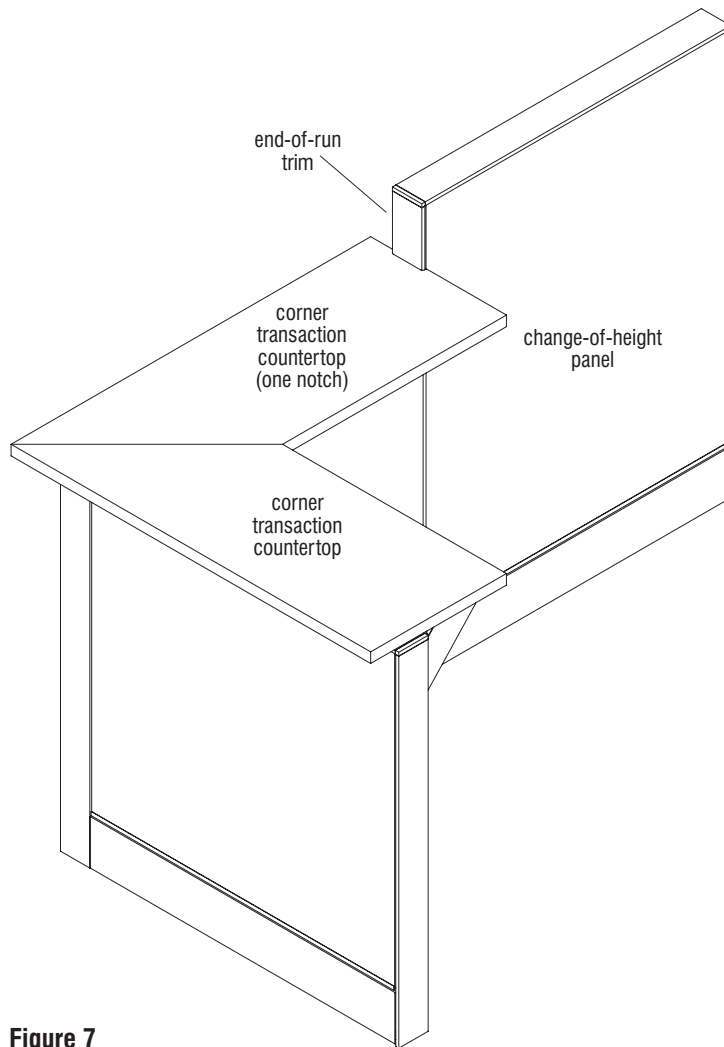

Figure 7
1. If a corner transaction countertop is specified for installation adjacent to a taller Unite Panel, the countertop will be supplied with a notch to accommodate the end-of-run trim of the taller panel (Figure 7). A corner countertop designed to install between two adjacent taller Unite Panels will have a notch at both ends (not shown).